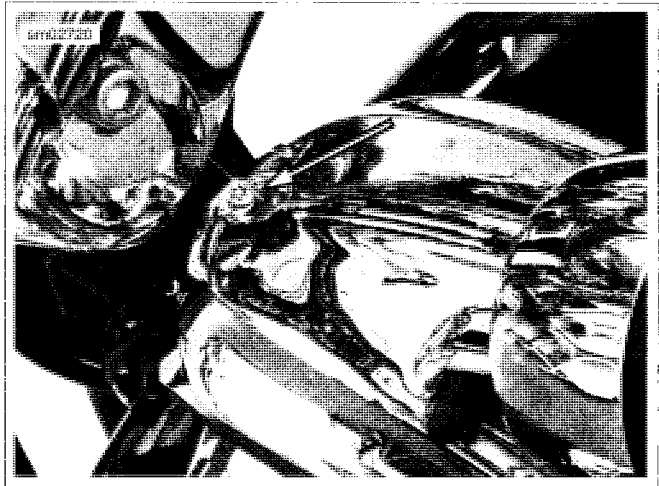

Figure 7-66. Front Console Screw
3. See Figure 7-66. Remove screw from front of instrument console.
- b. See Figure 7-66. Loosely install screw with washer in front console mount.